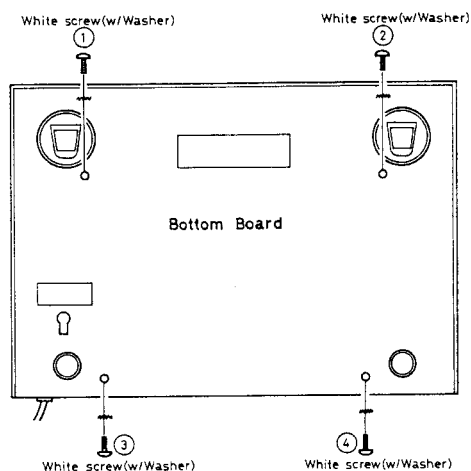

Fig. 6
1. Turn the set upside down and remove 4 setscrews (① ~ ④) in Fig. 6) on the bottom board.